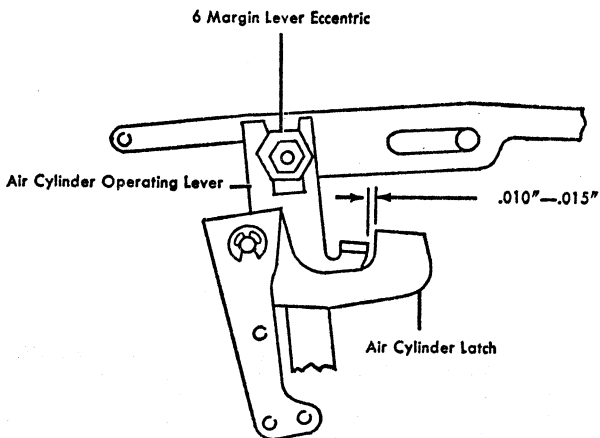

Figure 3. Margin Lever Eccentric Adjustment
6. THE ECCENTRIC ON THE MARGIN LEVER is adjusted for .010"-.015" clearance between the air cylinder lever and the air cylinder latch when the margin lever is held to the extreme right. The high point of the eccentric should be kept toward the top of the machine (Figure 3).